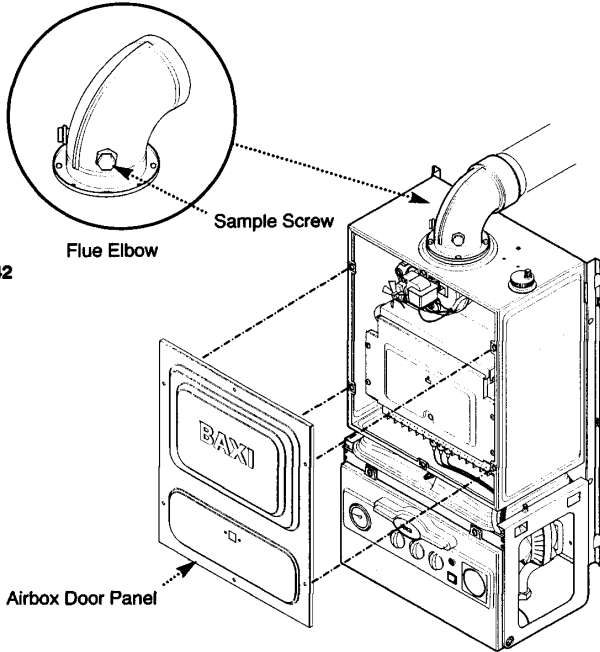

Fig. 42
3. Whilst the boiler is running measure the CO and CO₂ content of the flue products by removing the RH sample screw on the flue elbow and insert a suitable sampling probe (Fig. 42). If the CO/CO₂ ratio is greater than 0.035 then further servicing and investigation is required.